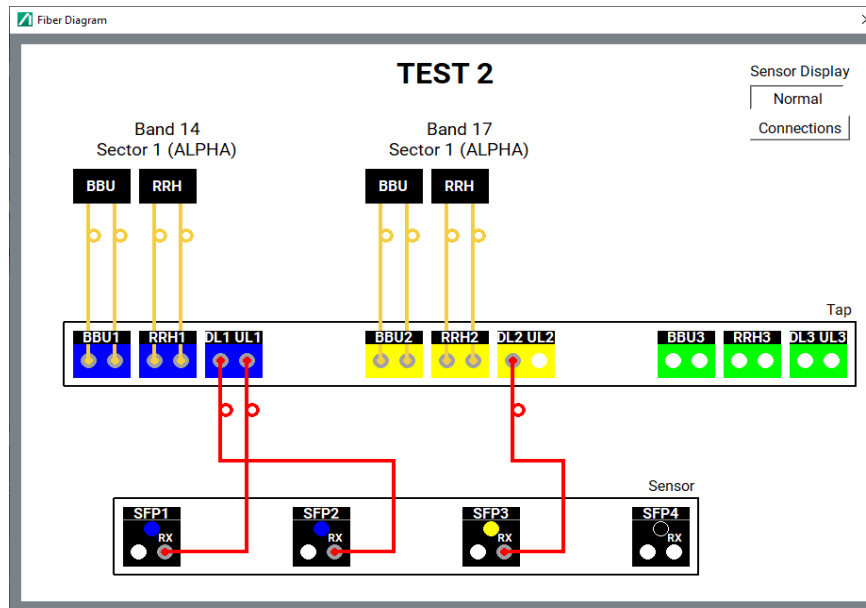

Figure 4-4. Fiber Diagram
2. Use the fiber diagram as a reference to fix the connections of the optical fibers between the IQ Fiber Analyzer and the optical tap as shown in the Figure 4-4 on page 4-6.